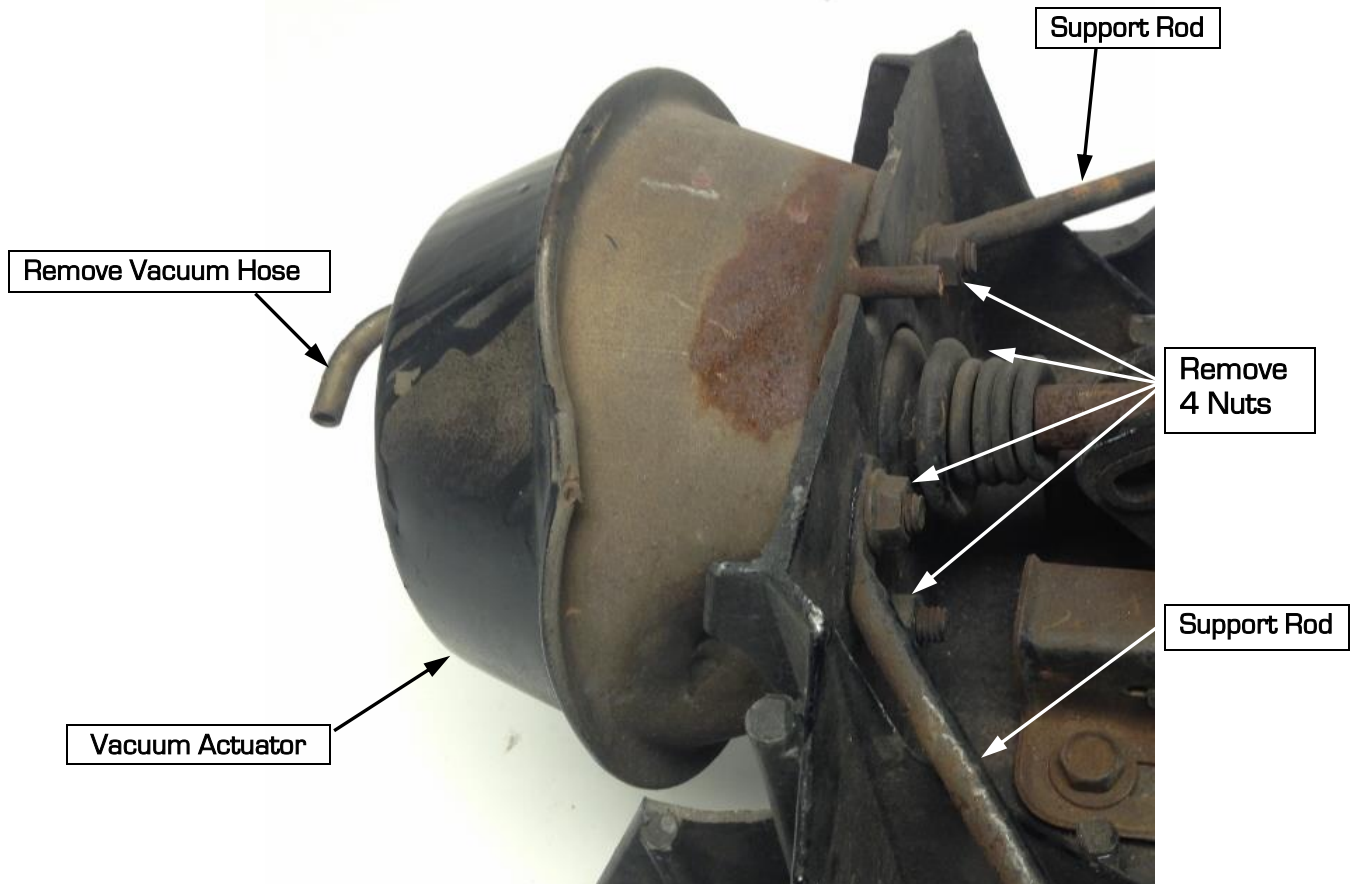

Figure 5 – Remove Vacuum Actuator
5. Remove the vacuum lines from the actuator. Remove the vacuum actuator from the headlight assembly by removing 4 hex nuts (Figure 5).